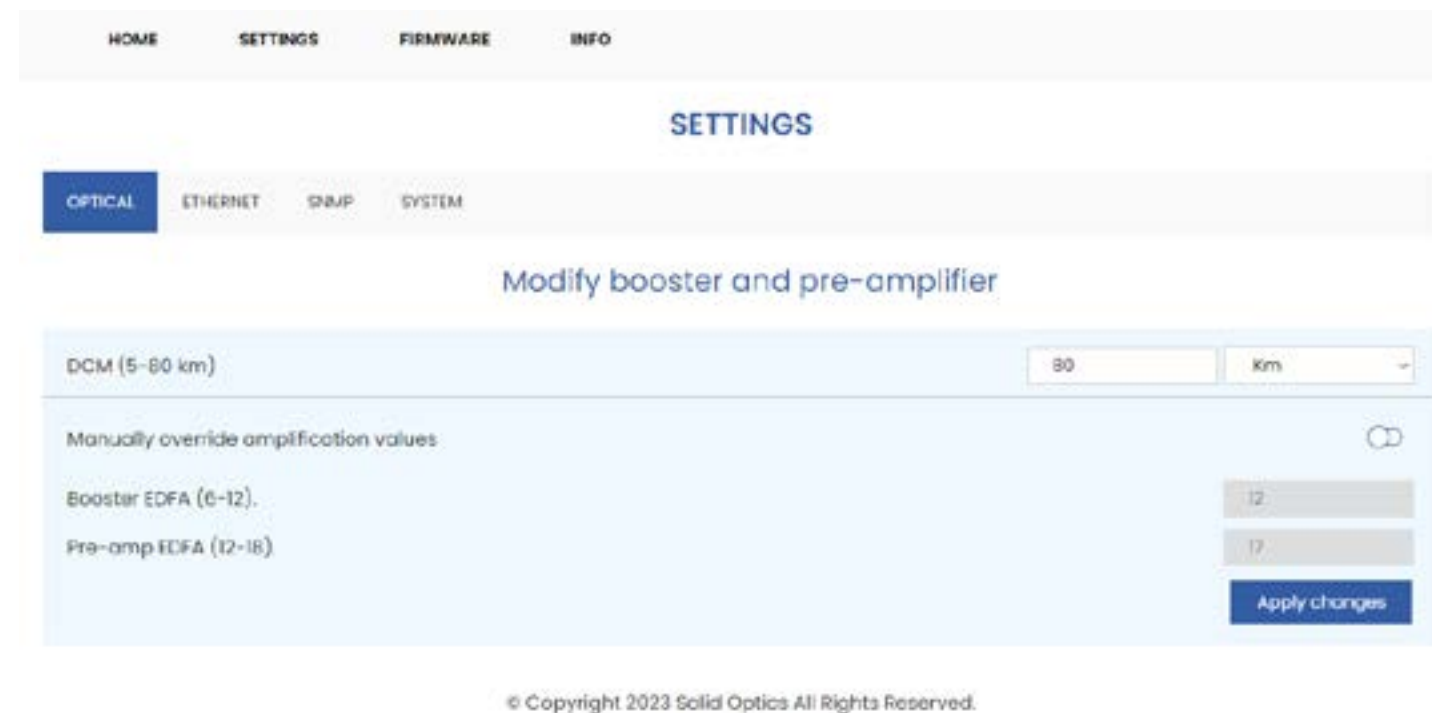

Figure 1
- a. Navigate to settings (see **"Figure 1"** p.8) and select **"optical"** submenu.
If adjustments are needed, follow these steps (based on "Figure 1" p.8):